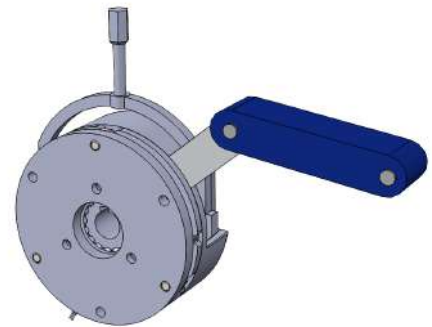

Figure 2: Feeler Gauge checking air gap
- **Air Gap Adjustment**—Reassemble the brake using the three socket head cap screws (mounting plate now assembled to the motor or mounting surface). Adjust air gap (see proper dimension below) using an open end wrench and the allen wrench with the socket head cap screws. The air gap measurement is between the armature plate and the case assembly (use a feeler gauge, see Figure 2). Measure and set the air gap in at least three locations (120° intervals) around the periphery of the brake. The air gap should not vary more than +/- 0.002" at any location.